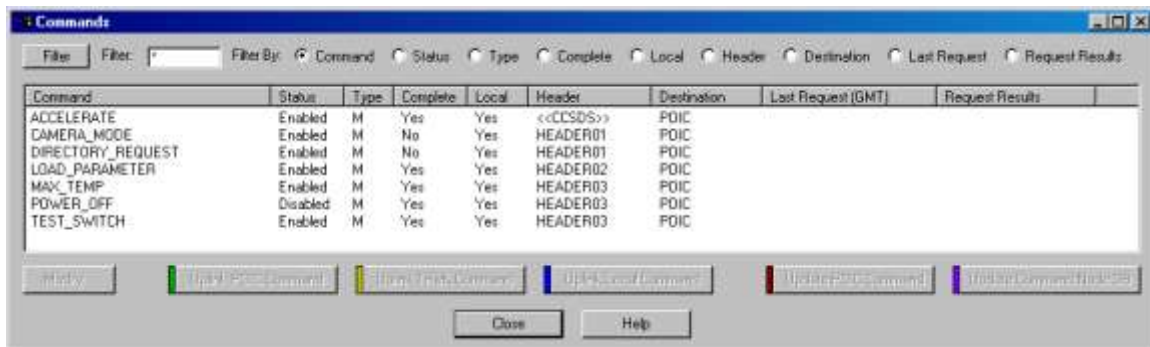

Figure 27 Commands Dialog
1. Go to the **Command Processing** application, select the **Command** menu, and then select the **Commands** menu item. This will display the Commands dialog shown in Figure 27.